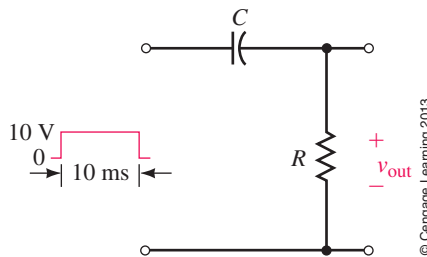

FIGURE 11–65
- A switch (not shown) is closed to apply E volts to the circuit of Figure 11–66. If $R = 150 \text{ }\Omega$ and $C = 20 \text{ pF}$, estimate the rise time of the output voltage.